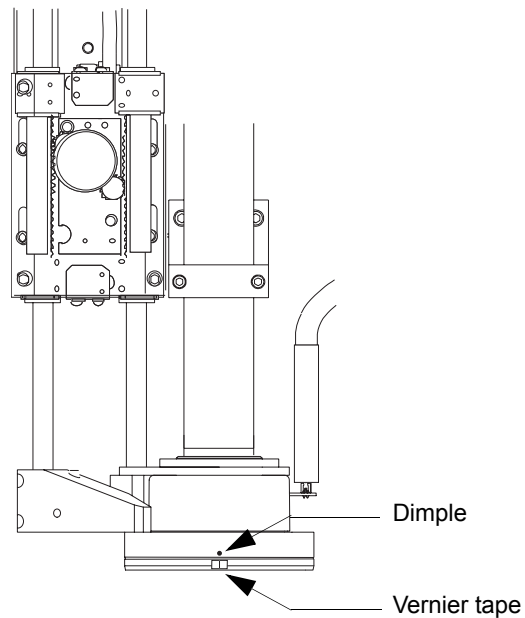

Figure 8-30 Picture of the Front of the PRL
9. Install the vernier tape such that the center line is just below the dimple on the outside of the PRL mirror; see Figure 8-30.